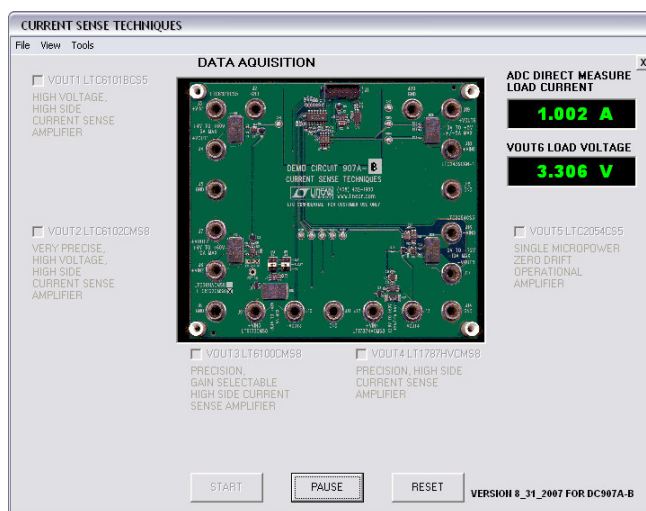

Figure 14. LTC2439-1 IsenseB.exe display (Current and Voltage at +VOUT6)
4. Mouse-click a check in the VOUT6 LTC2439-1CGN enable box and then mouse-click the START box to begin data-acquisition. The IsenseB.exe presentation will then show, as in Figure 14, a continuously updated current and voltage as furnished to the load connections. To suspend updating, mouse-click the PAUSE box. The RESET box returns the program to the initial setup state. A red readout represents an out-of-range result or condition that may be beyond safe limits. A yellow readout is acceptable, but indicates being near a limit. Green readouts are well within nominal conditions.